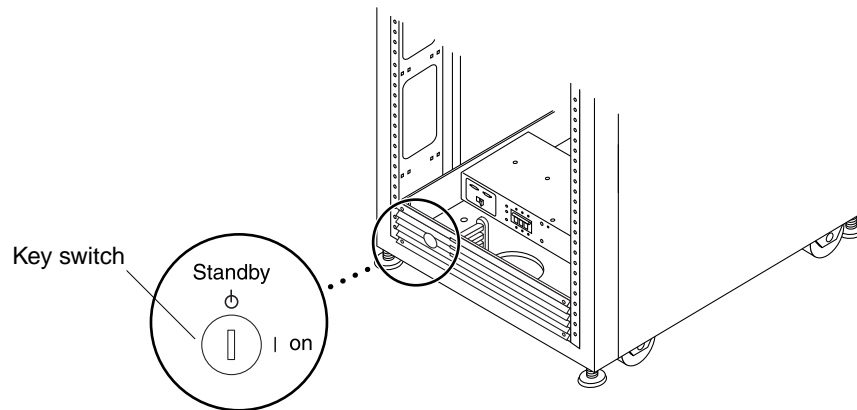

FIGURE 4-5 Location of Key Switch on Bottom Front Panel
3. **Verify that the key switch located at the bottom front of the storage system is in the Standby position (FIGURE 4-5).**
2. **Turn the key switch located at the front of the storage system(s) to the Standby position (FIGURE 4-5).**